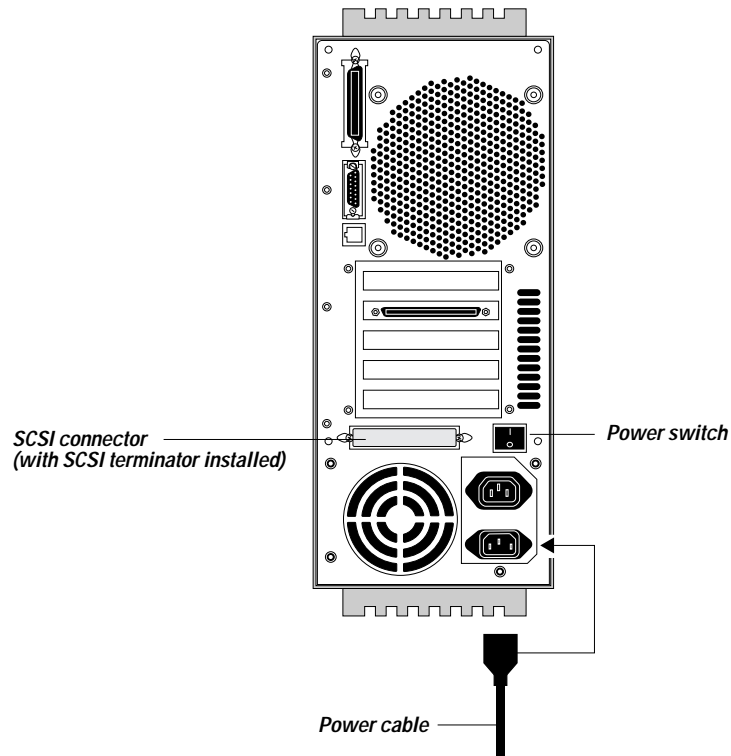

Figure 3-1 Fiery XJ BP100 back panel
1. *Connect one end of the Fiery XJ BP100 power cable to the lower plug at the back of the Fiery XJ BP100 (see Figure 3-1).*